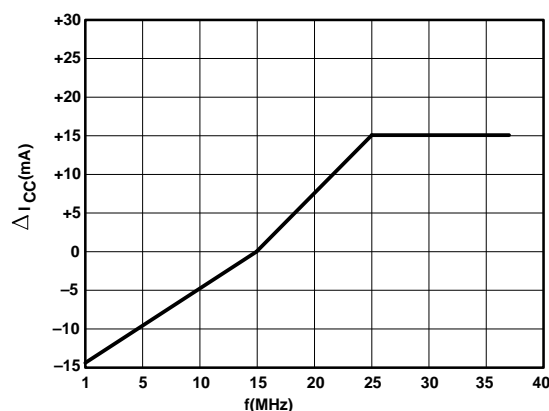

Figure 1. ΔI_{CC} vs Frequency
6. Refer to Figure 1, ΔI_{CC} vs Frequency (worst case). (Referenced from 15MHz)